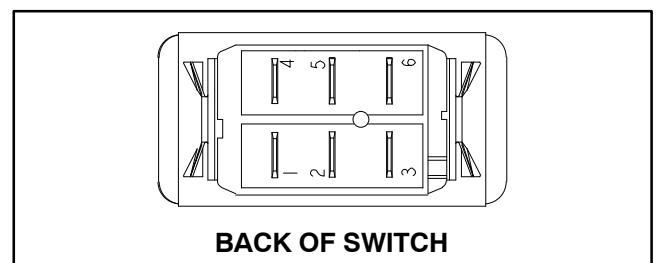

Figure 33
4. The switch terminals are marked as shown in Figure 33. The circuit logic of the switch is shown in the chart below. With the use of a multimeter (ohms setting), the switch functions may be tested to determine whether continuity exists between the various terminals for each position. Verify continuity between switch terminals. Replace switch if testing identifies a faulty switch.